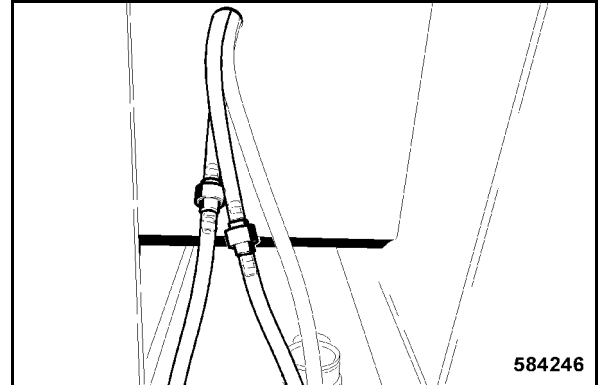

Fig. 224
- Plug on the hoses for the washing water supply to front and rear windscreens 1 (Fig. 224).